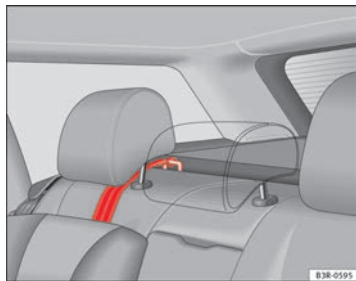

Fig. 35 Retainer strap:
- Lead the Top Tether fastening belt under the rear seat head restraint ⇒ fig. 35 (lift the head restraint where necessary).